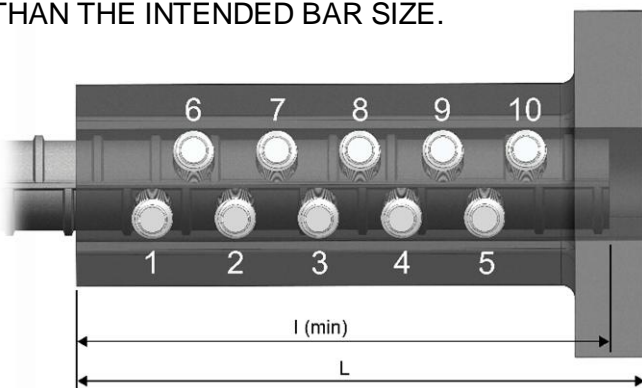
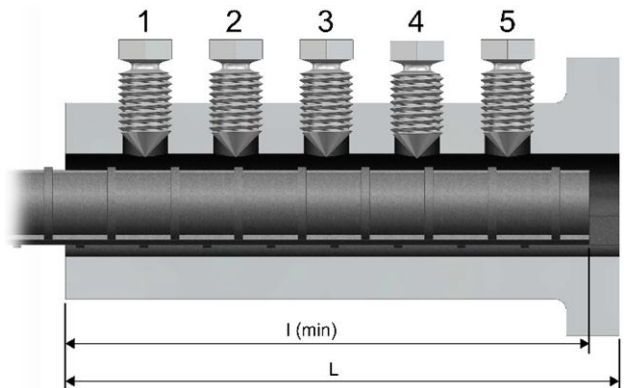

Figure 3. Tightening Order for **Double** Row of Screws
Figure 4. Tightening Order for **Single** Row of Screws
Measure and mark the reinforcing bar for the minimum insertion length (I) * before inserting the bar into the Zap T-Lok per Figure 3, Figure 4 and Chart 1.